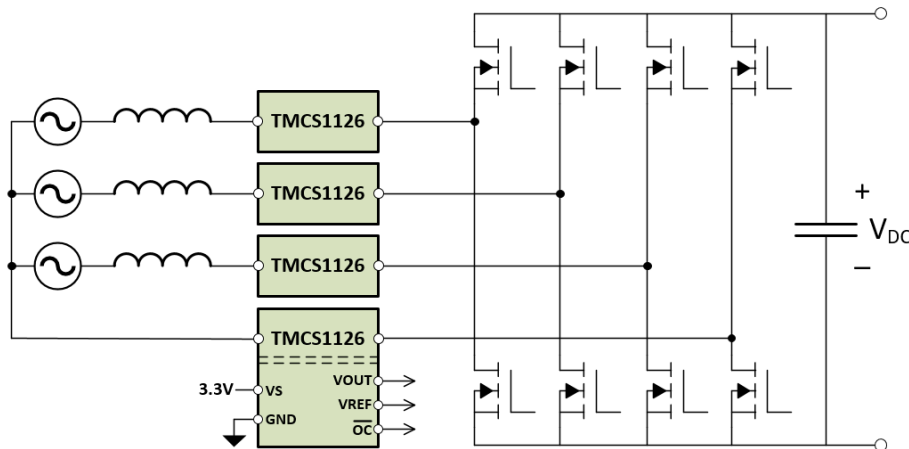

Figure 9-2. AC to DC Converter Current Sensing
In many applications, power must be converted from AC sources for use in DC circuitry. Some type of controlled power factor correction (PFC) stage is usually needed to improve power transfer efficiency. Faster and faster power switches are being used in modern PFC stages to reduce overall size and to improve power transfer efficiency. Often, the PFC stage of AC to DC converters is connected directly to AC power grids. A primary challenge to sensing in PFC stages is that the current sensor is subjected to large voltage spikes coming from the high-voltage (HV) power grid along with large transients coming from high speed power switches during charge transfer. Inherent isolation in the TMCS1126 construction helps overcome these challenges by providing high levels of isolation between the HV current sensing nodes and low-voltage control circuitry, with high common-mode transient immunity (CMTI). Figure 9-2 shows the use of the TMCS1126 measuring phase currents in a common AC to DC converter stage.